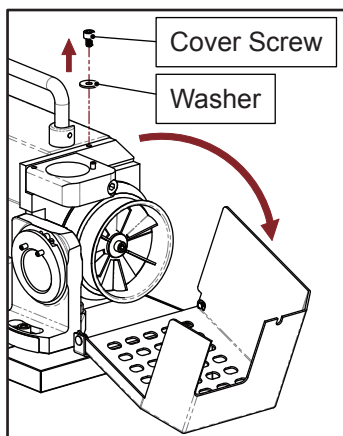

Fig. 12-2
③ Loosen the screw from the grinding wheel cover to open the cover. (Fig. 12-2)